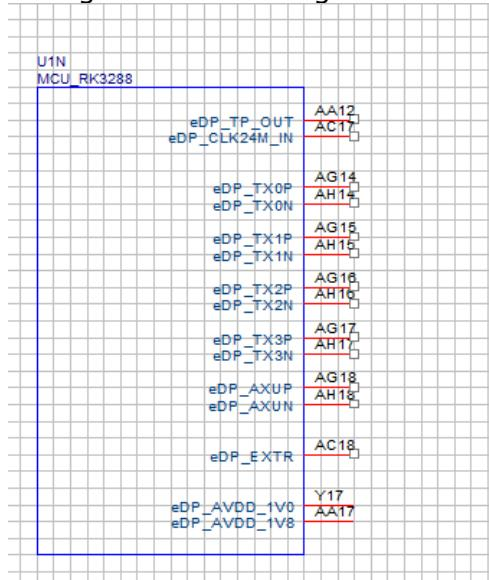

**Figure 14-6**
- When using LVDS and RGB functions, LVDS\_AVDD\_1V0, LVDS\_AVDD\_1V8 and LVDS\_AVDD\_3V3 are all requiring power supply, while the power supply is not needed when no using, shown as Figure 14-6.